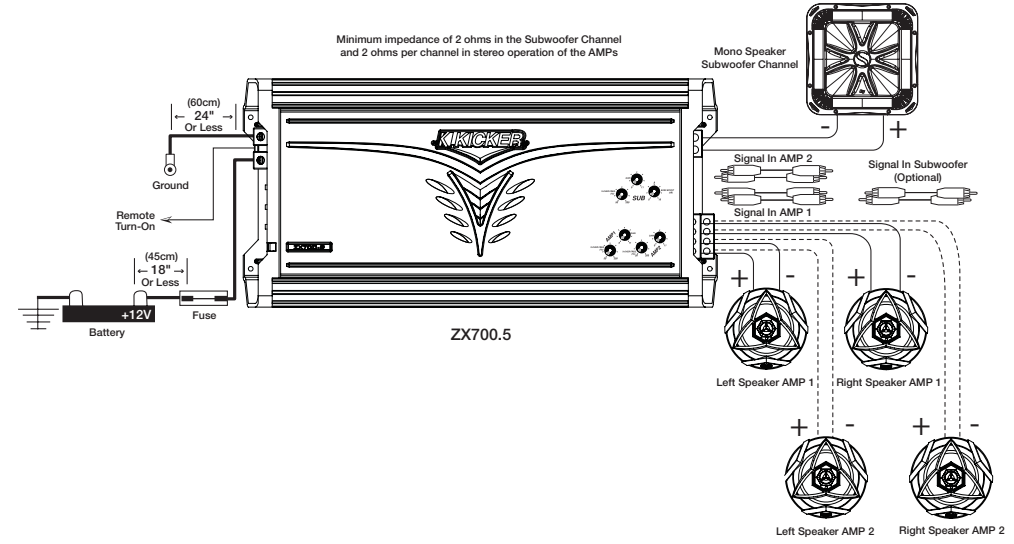

Figure 3
**Four (ZX700.5) / Two Channel (ZX550.3) Operation with Subwoofer** These ZX amplifiers are capable of operating into a minimum impedance of 2 ohms per channel in stereo operation and 2 ohms mono in the subwoofer channel. See Figure 3.